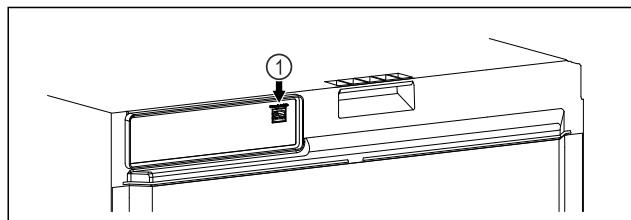

Fig. 115
- ❑ SmartModule Fig. 115 (1) is inserted.